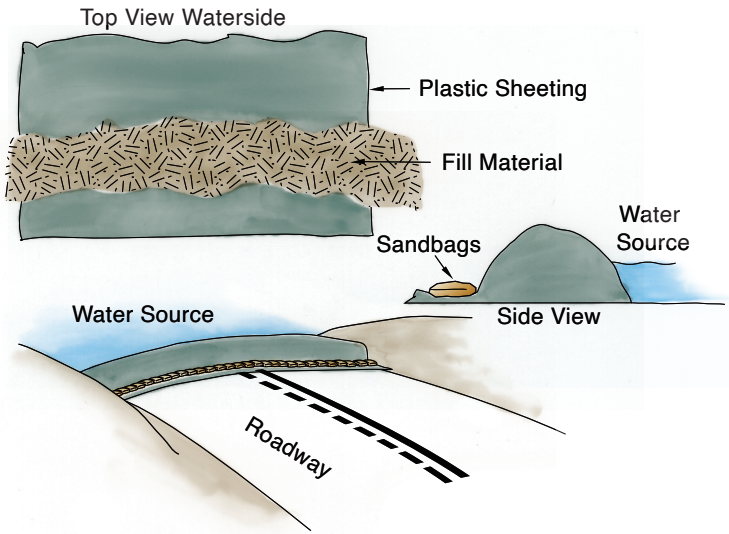

Figure 4: Temporary Levee
- Unfold a 20'x100'x10 mil roll of plastic sheeting and lay out flat on area to be raised (Figure 4), with excess plastic towards the waterside.